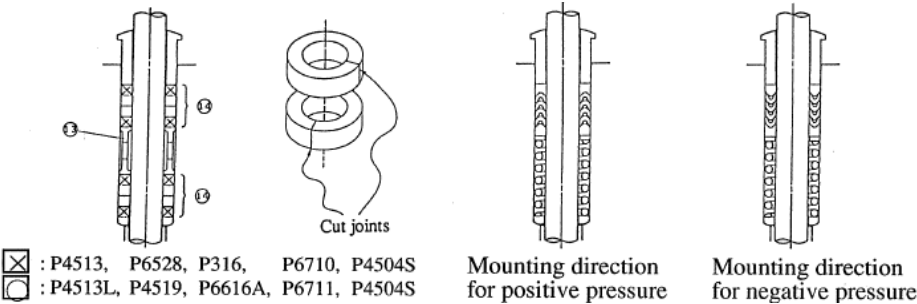

Fig. 18
- Pay attention to the mounting procedure of the gland packing. It should be mounted in the order shown in Fig.18 and 19.